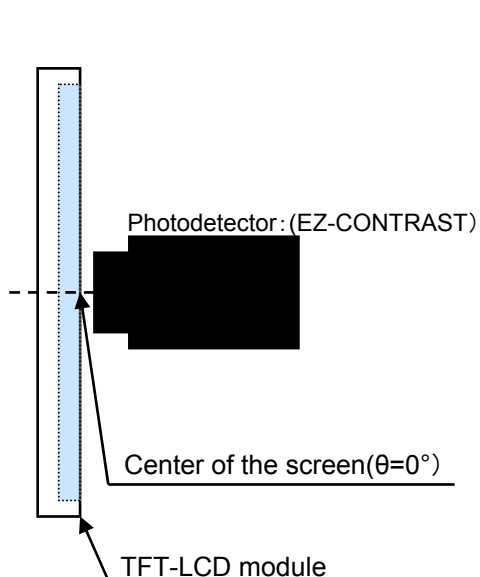

Fig.9-1 Viewing angle range measurement method
* The optical characteristics measurements are operated under a stable luminescence (ILED = 20mA) and a dark condition. (Refer to Fig.9-1 and Fig.9-2)